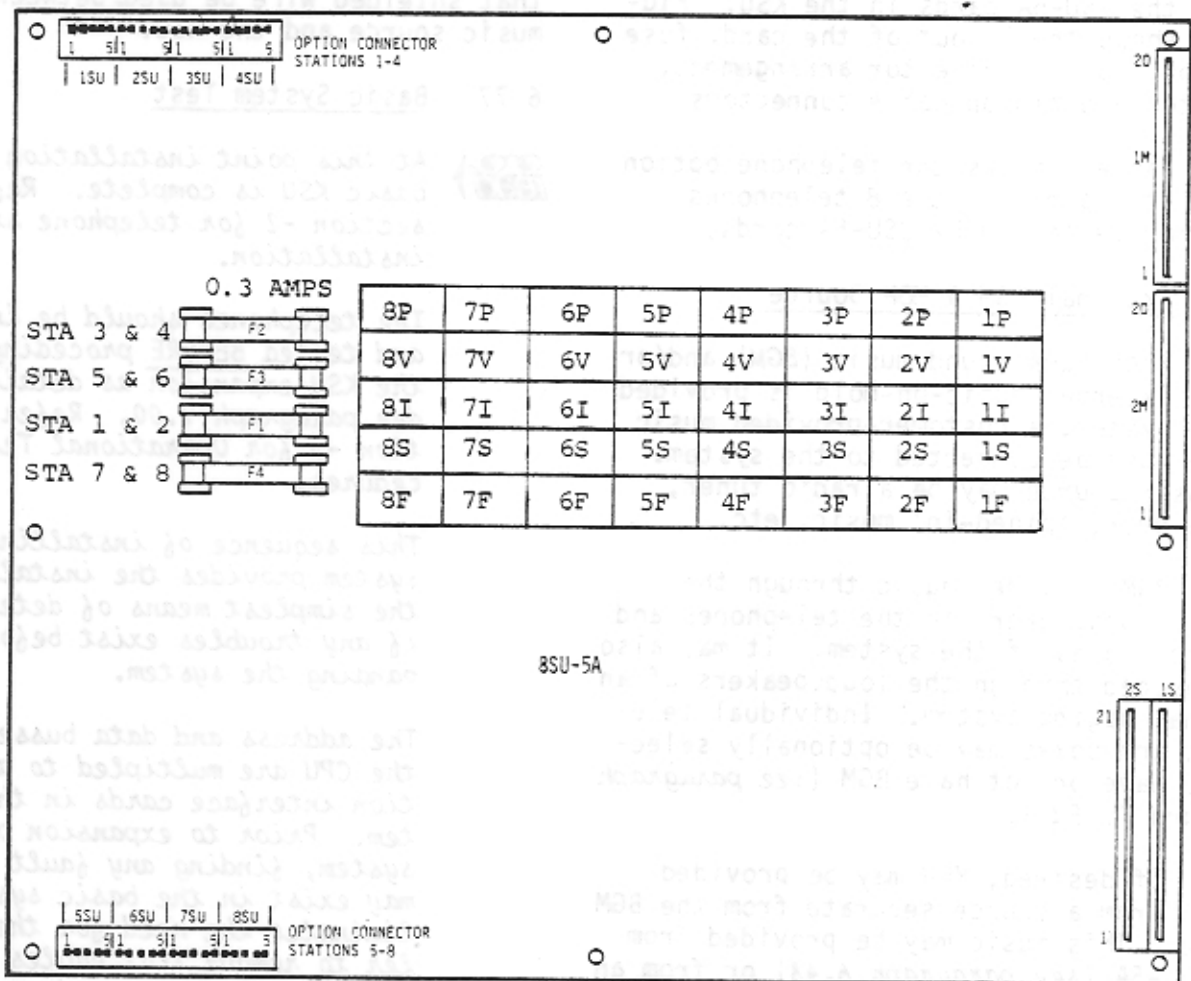

Figure 9 - 8SU-5A Abbreviated Card Layout
6.66 Figure 3 shows the location of the 8SU-5A card in the KSU. Figure 9 shows the layout of the card, fuses, option connector arrangement, and intercard ribbon cable connectors.